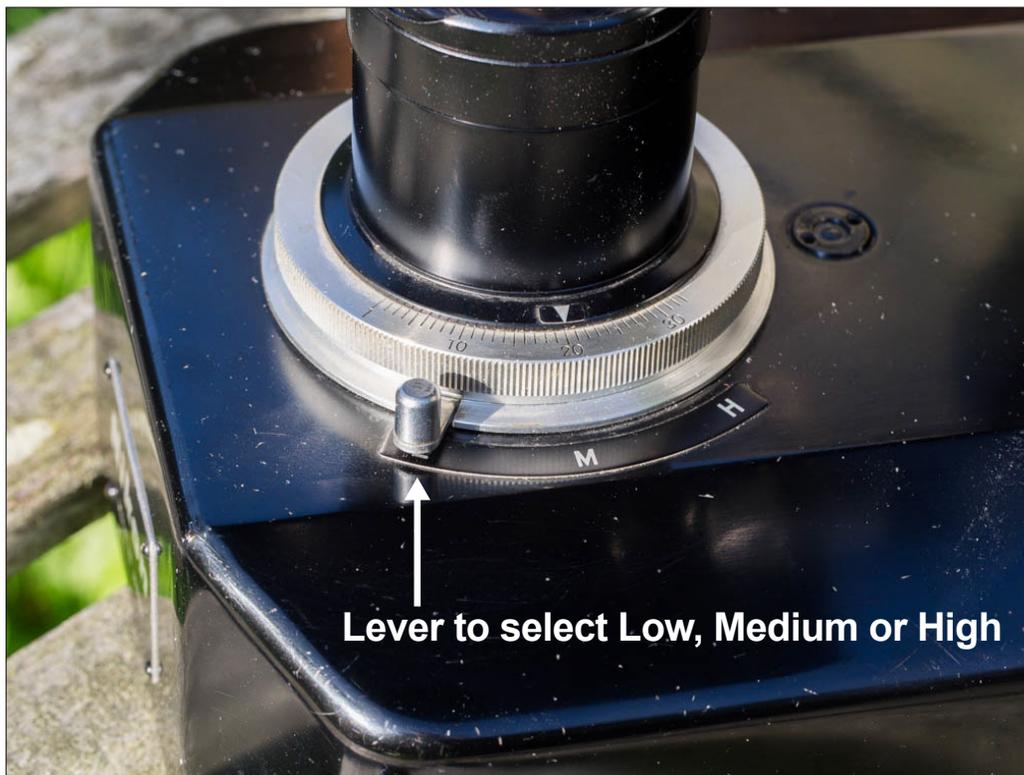
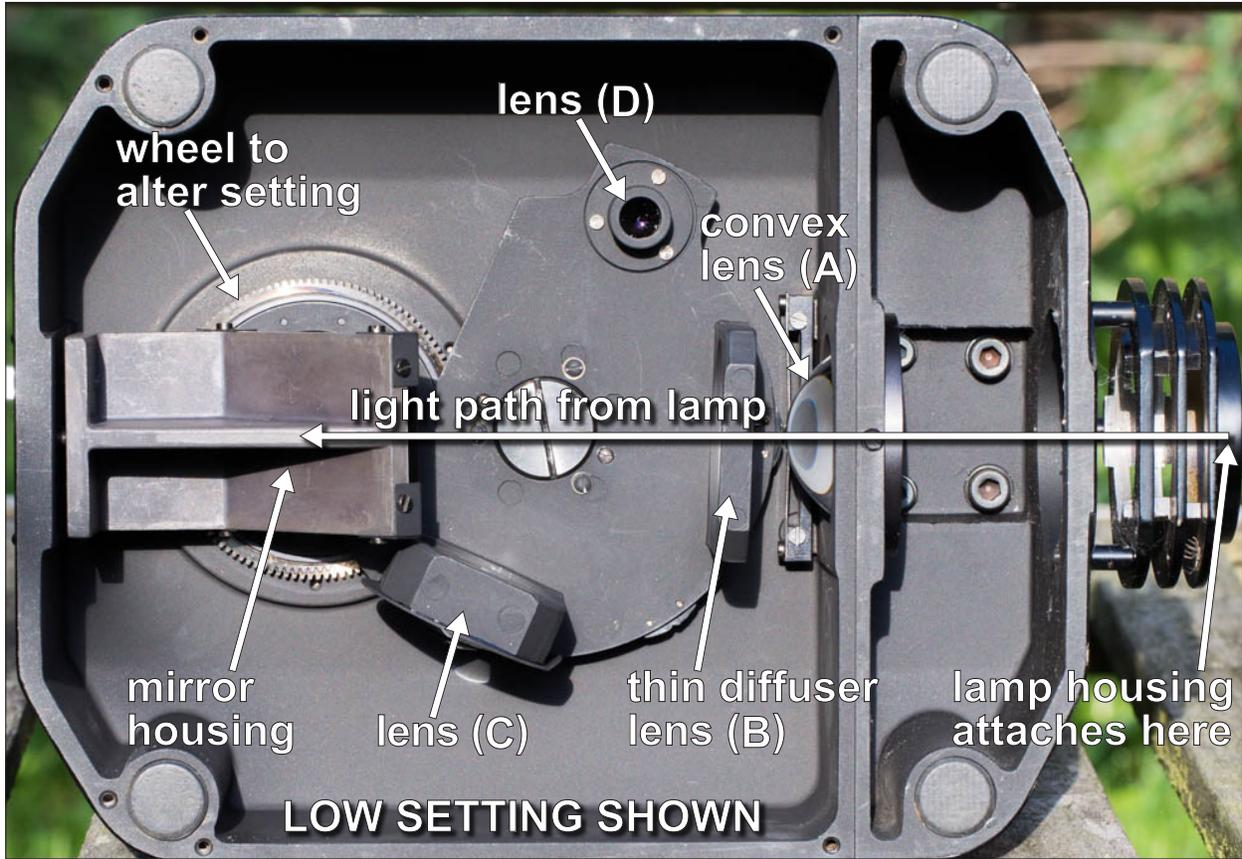

Figure 2.
Figure 3. Light pathway in the Low setting.
As you can see, the lever has three positions; L, M and H for Low, Medium and High powers respectively (Figure 2). In this context, a X4 is Low, X10 Medium and X40 and above High power. The graduated knurled wheel that can be seen is the control for the field diaphragm. With the base removed, as shown in Figure 3, we can see what is moved into/out of place when the lever is altered.
The situation shown in Figure 3 is for the Low setting, and in this position the only additional object in the pathway is a thin diffuser lens (B). This seems only mildly frosted, being very translucent.